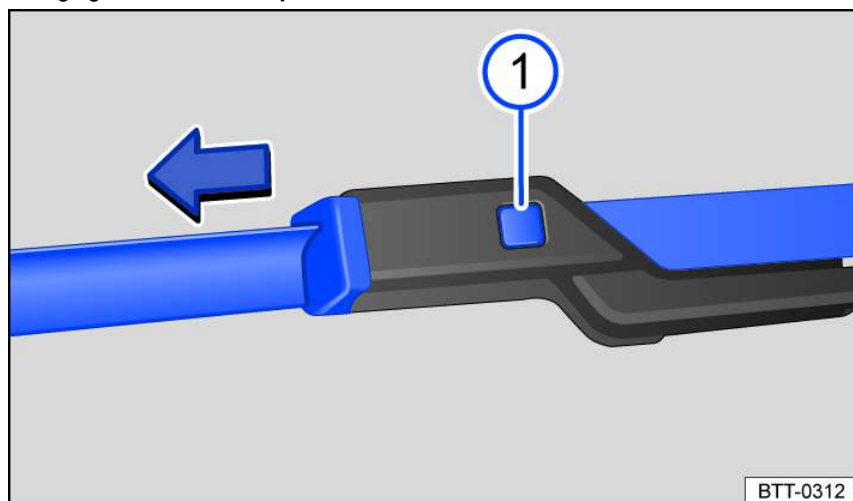

Fig. 134 Changing the windshield wiper blades.
- Press and hold the release button and remove the wiper blade at the same time in the direction of the arrow *fig. 134* .